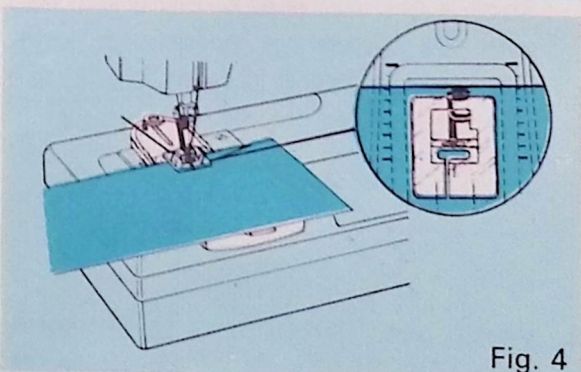

Fig. 4
4. Pick up bobbin thread through guide plate by turning hand wheel and drawing thread to back of machine. Place fabric between presser foot and guide plate. Line up edge of fabric with marked indentation on guide. See Fig. 4. If you wish all buttonholes to be ¾ inch from edge of garment, line up fabric with ¾ inch marking each time you start sewing a buttonhole.
4. Press both sides of the finished hem. The right side of the garment will show only the blind stitches. (Fig. 4)